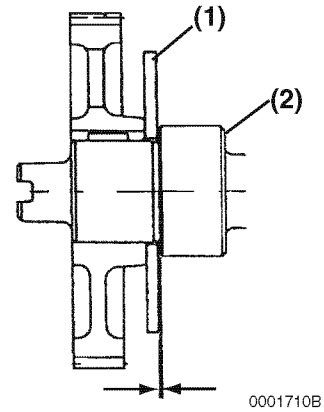

Figure 6-46
- **Method B:** Use a feeler gauge to measure the clearance between the thrust plate (**Figure 6-46, (1)**) and front camshaft bearing (**Figure 6-46, (2)**). Record the measurement. See *Thrust Bearing* on page 6-9 for the service limit.